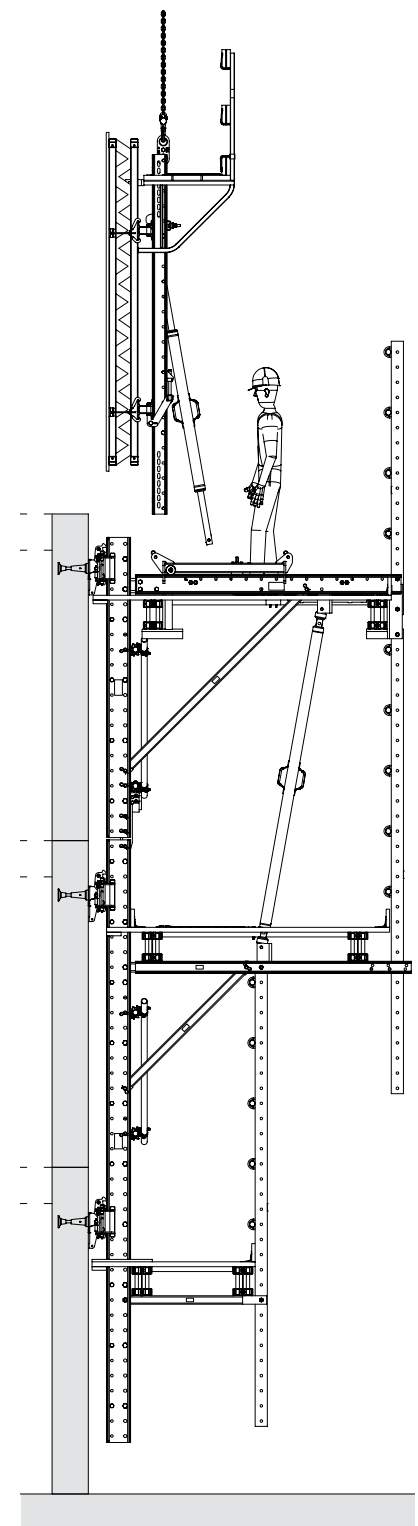

Fig. C4.14
7. Mount formwork, see Section "Mounting the formwork" on page 75. (Fig. C4.14)